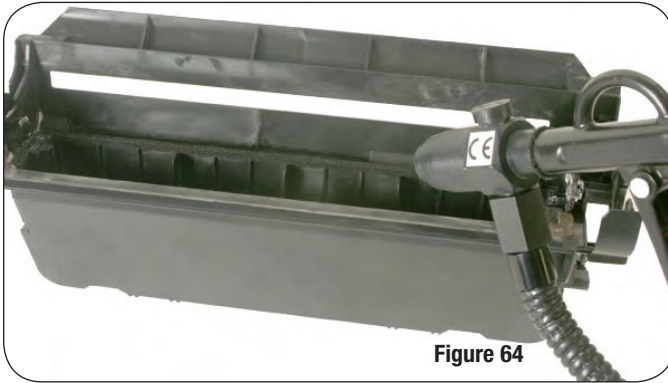

Figure 64
7. Dump waste toner into cartridge cleaning workstation. Blow clean with ionized, dry, filtered, compressed air (Figure 64).